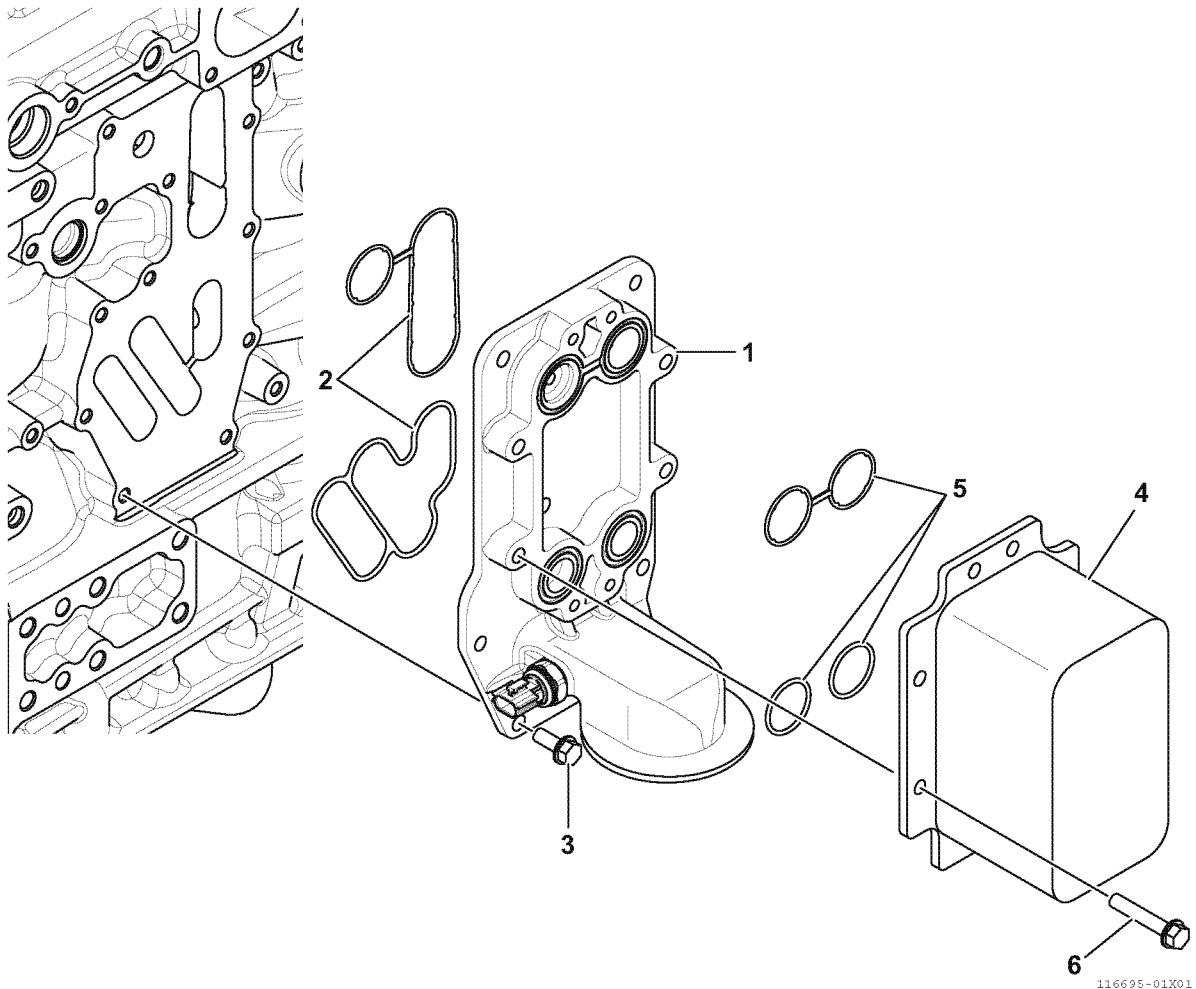

Fig.30-17
1. Clean the mounting face of the engine lubricating oil cooler bracket (1, Fig.30-17) and the mounting face of the cylinder block side.
2. Fit a new lubricating oil cooler gasket (2, Fig.30-17) to the groove of the lubricating oil cooler bracket. Attach the lubricating oil cooler bracket to the to the cylinder block, and tighten with the M8 bolts x8 (3, Fig.30-17) to the specified torque.
3. Clean the lubricating oil cooler mounting side of the lubricating oil cooler bracket, and the attaching face of the lubricating oil cooler (4, Fig.30-17).
4. Fit a brand new lubricating oil cooler gasket (5, Fig.30-17) to the lubricating oil cooler bracket groove. Attach the lubricating oil cooler to the lubricating oil cooler bracket, and tighten with the M8 bolts x8 (6, Fig.30-17) to the specified torque.